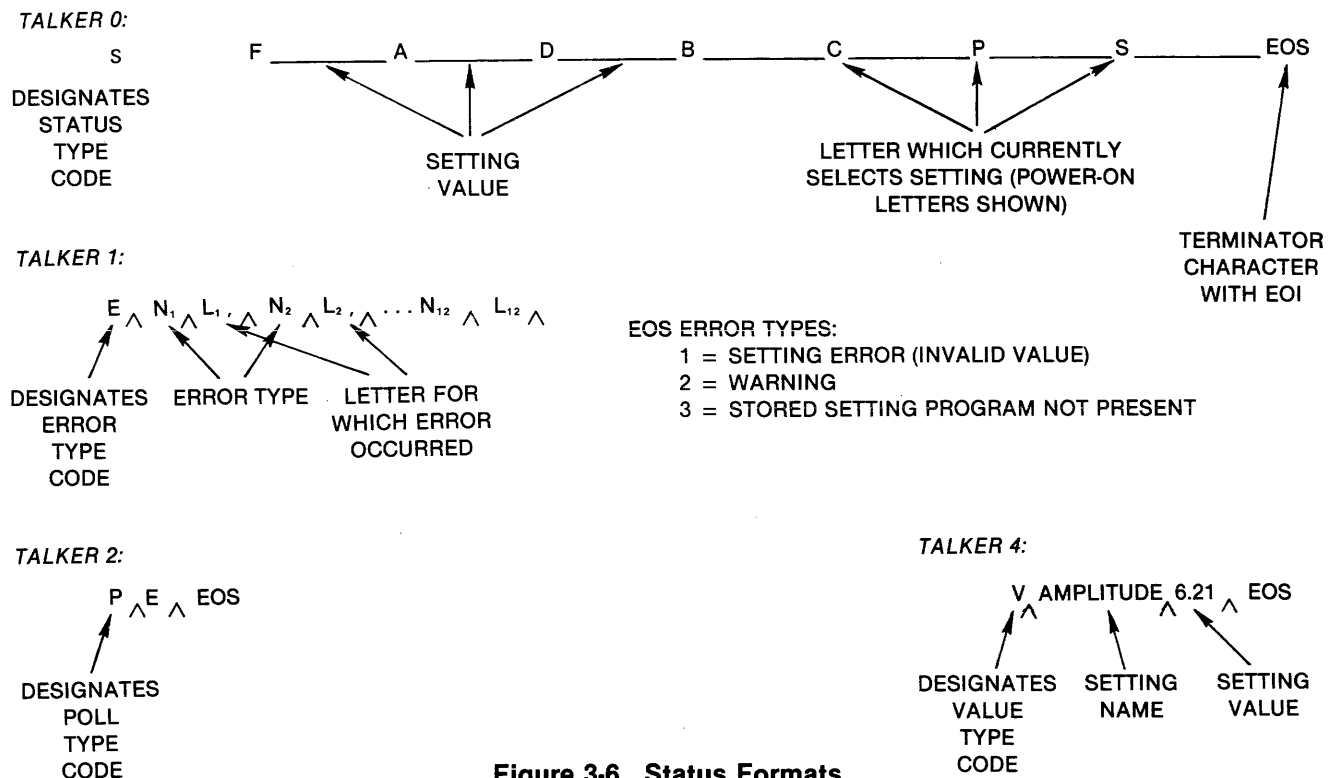

Figure 3-6. Status Formats
- 0 Status message will give currently programmed waveform setting values. These will be the same as the values controlling the analog circuits if no new values were programmed since the last execute action. If this message is sent back to the 172B as programming input at a later time, it will restore the frequency, amplitude, offset, mode, function, output and symmetry settings to the values they had when the message was read from the 172B. (See figure 3-6.)